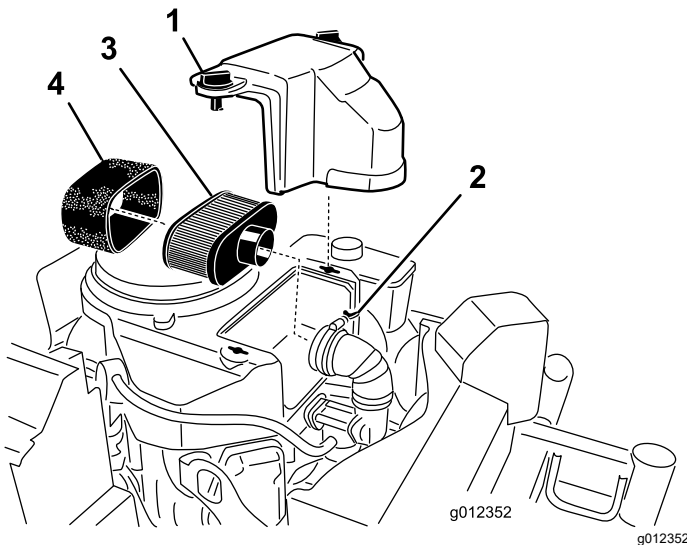

Figure 28
2. Clean around the air cleaner to prevent dirt from getting into the engine and causing damage (Figure 28).
3. Rotate the cover knobs 1/4 turn counterclockwise and remove the air-cleaner cover (Figure 28).
4. Rotate the thumbscrew of the hose clamp counterclockwise until you can separate the air-cleaner assembly from the inlet duct (Figure 28).
5. Carefully pull the foam element off the paper element (Figure 28).
1. Inspect the element for tears, an oily film, or damaged (Figure 28).
1. Inspect the element for tears, an oily film, or damage to the rubber seal (Figure 28).
1. Carefully slide the foam element onto the paper air-cleaner element (Figure 28).
2. Align the air-cleaner assembly onto the inlet duct and secure it with the hose clamp (Figure 28).
3. Align the air-cleaner cover onto engine cover and secure the cover by rotating the cover knobs 1/4 turn clockwise (Figure 28).